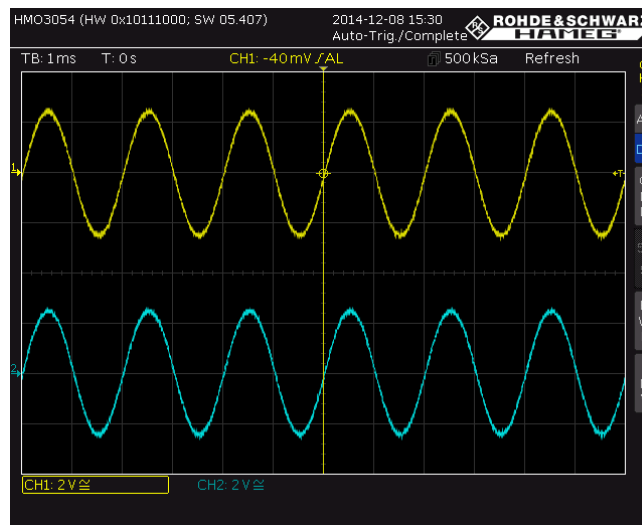

Fig. 2-37: Display of u_{in} (CH1, yellow) and u_{out} (CH2, blue) after the "AUTO SET".
- Press the *Auto Set* key. Triggering is on the rising edge of the input voltage u_{in} (CH1). X and y deflection are set automatically (Fig. 2-37).